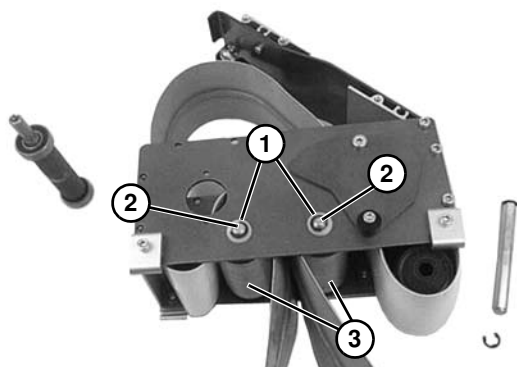

Figure 69
- a. For 44 mm, 70 mm, or 95 mm wide conveyor, remove E-ring clips and washers (**Figure 69, item 1**). Remove pulley shafts (**Figure 69, item 2**) and pulleys (**Figure 69, item 3**).